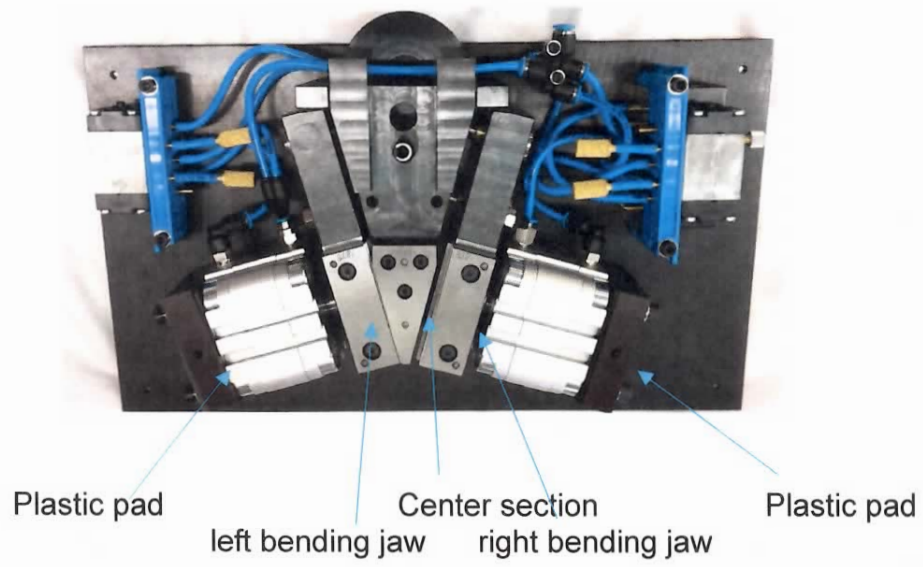

Fig. 5
2. Turn the height adjustment completely upwards using the knurled screw and remove the height adjustment (see Fig. 5).
3. Unscrew and remove the protection. See Fig.5, 2 Allen screws.